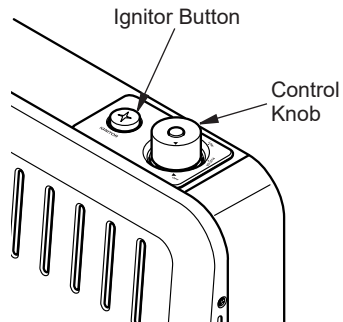

Figure 21 - Control Knob in the OFF Position
4. Wait five (5) minutes to clear out any air. Then smell for gas, including near the floor. If you smell gas, STOP! Follow "B" in the safety information above. If you do not smell gas, go to the next step.
5. Turn control knob counterclockwise  to the PILOT position. Press in control knob for five (5) seconds (see Figure 21).